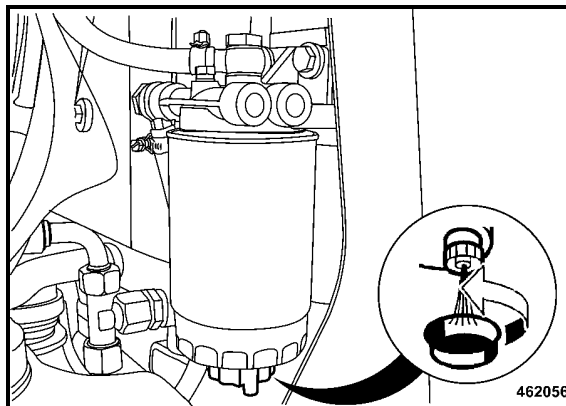

Fig. 129
- Slacken the drain plug (Fig. 129) for a few turns and catch running out fuel / water.